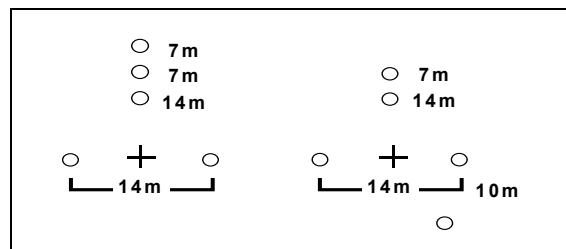
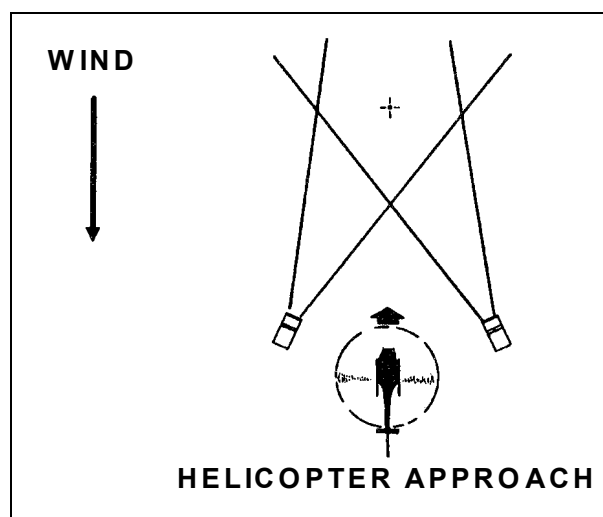

Figure 4-16. Placement of fifth light using inverted "Y," when coordinated.
Figure 4-17. Emergency night lighting by vehicle headlights.
(1) Pathfinders display an inverted "Y" for cargo aircraft. This marker consists of five lights. Pathfinders place the fifth light IAW prior coordination with the supporting aviation unit (Figure 4-16, page 4-22). The fifth light can go 7 meters from last stem light or 10 meters below right flank light.
(2) Pathfinders will display a NATO landing "T" if an aircraft approaches the LZ from 500 AGL or above, or anytime the pathfinders coordinate in advance with the supporting aviation unit.
(3) Noncargo aircraft require a 5-meter separation between touchdown point and lights, with a 5-meter separation between lights.
(4) Cargo aircraft require a 10-meter separation between touchdown point and lights, with a 10-meter separation between the lights.
e. Vehicle headlights offer one kind of emergency night lighting. Pathfinders place two vehicles about 35 meters apart and 35 meters downwind of the landing point. They shine their headlights so that their beams intersect at the center of the landing point (Figure 4-17, page 4-22). The helicopter approaches into the wind, passes between the vehicles, and lands in the lighted area. This method does not work well for large helicopters.